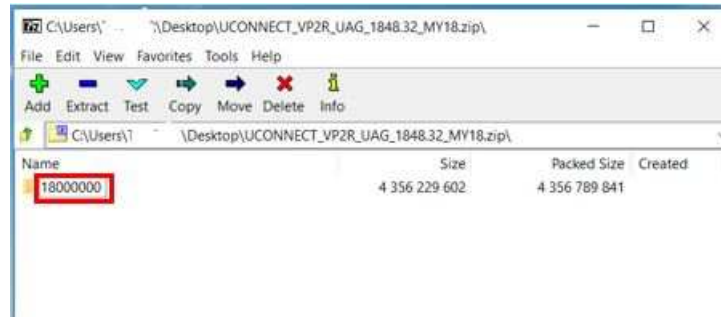

Fig. 4
7. Be sure to download the file to your PC's desktop and open it (Fig. 4) .